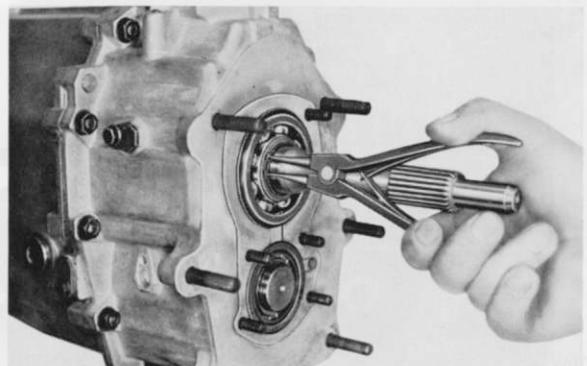

Fig. 10
- 2. Remove circlip (208) (Fig. 10) and take off spacer (209).
- 3. Dismantle spring ring. Pull off ball bearing (212) with tool 2.